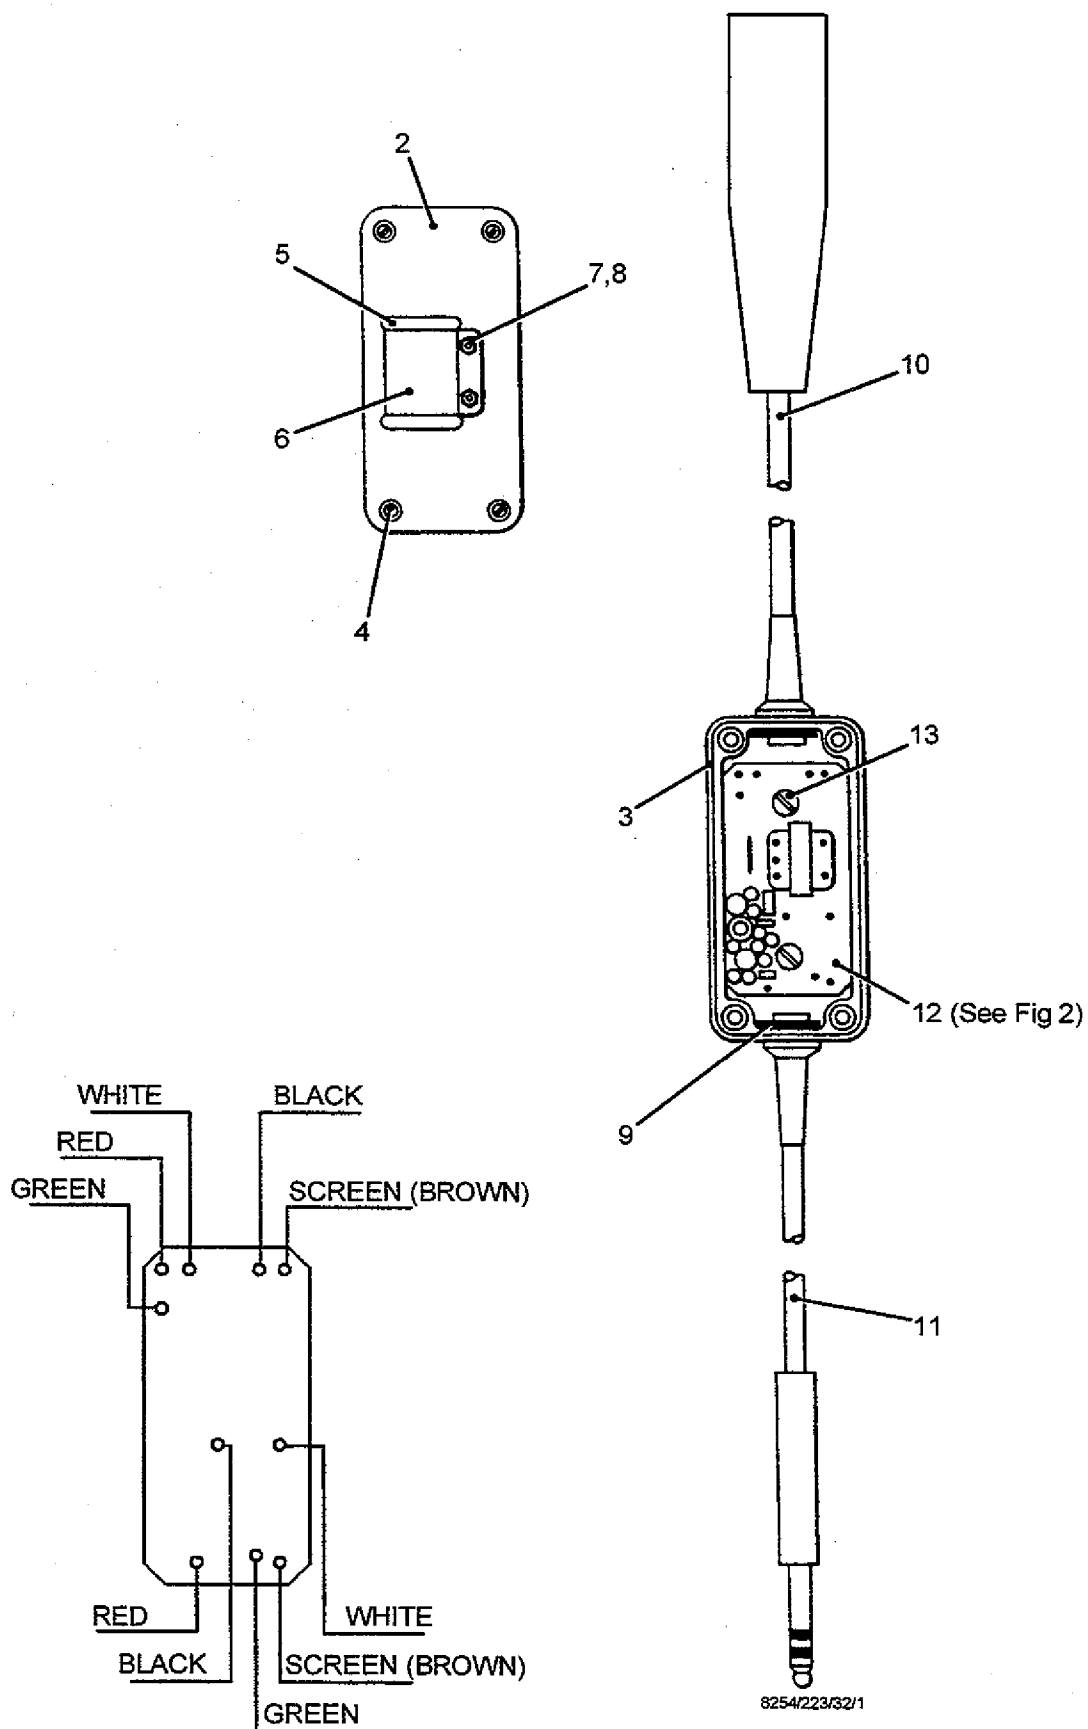

Fig 1 Amplifier 5965-99-792-0240
Item numbers refer to Fig 1.
Replacement of panel, electronic circuit (Fig 1)
11 Fit the replacement cord assembly (10) or (11) to the amplifier box and secure with the grommet retainer (9). Reconnect connections to the PEC as shown in Fig 1. Refit the lid (2) and gasket (3) to the amplifier box.